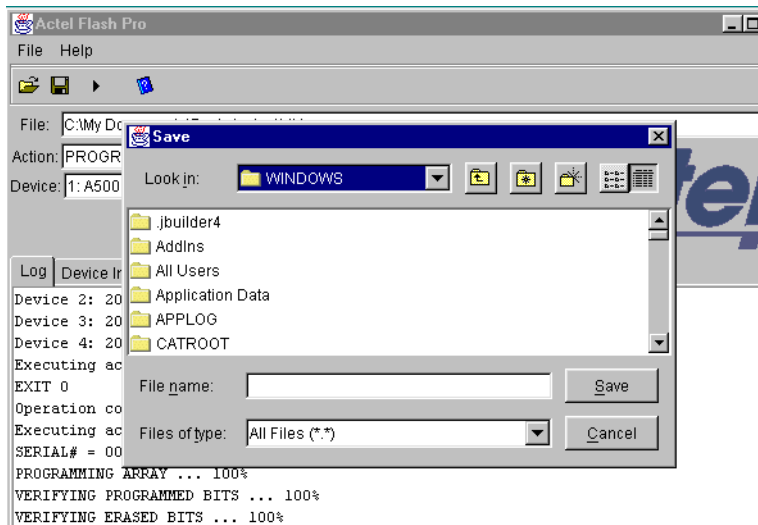

Figure 2-13. Save Dialog Box
1. **From the File menu, click *Save Log*.** The Save dialog appears, as shown in Figure 2-13.